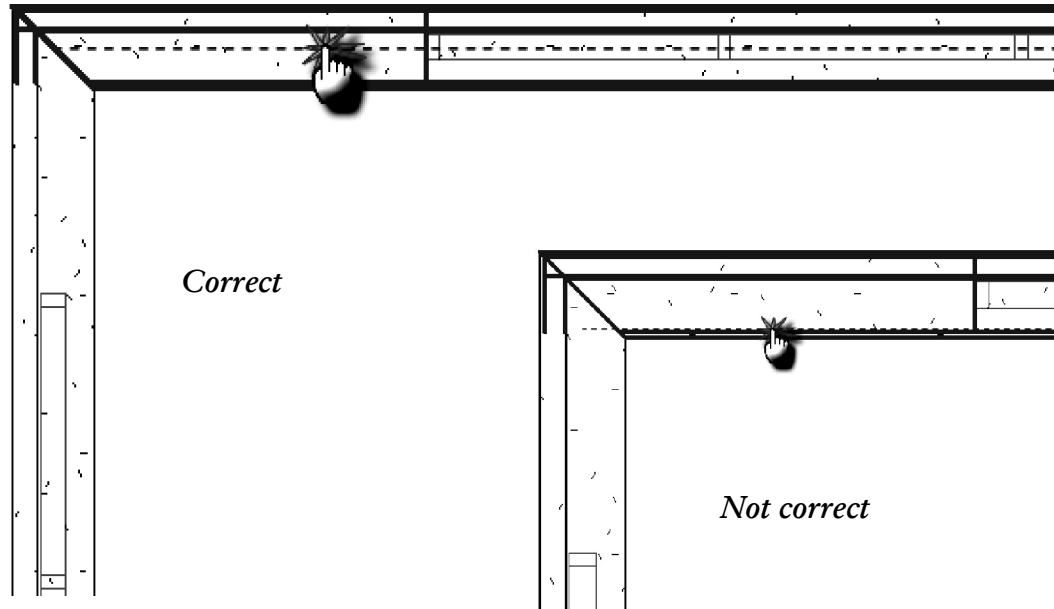

FIGURE 7-2.3 Roof Plan; four walls selected for sketching roof footprint
11. Select each of the exterior walls, favoring the exterior side when clicking the wall. Just before clicking, the dashed reference line should be at the exterior face of the wall core per the example shown in Figure 7-2.3.